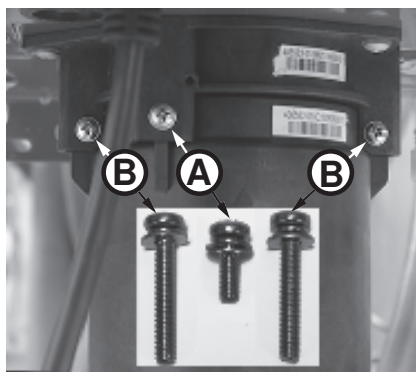

Figure 226 - Identify cartridge screws
- 6 Locate the three (3) screws securing the X3®/Bypass cartridge as shown in Figure 226. Remove the **(A)** M4-12mm screw and the two **(B)** M4-25mm screws from cartridge. Place screws aside in a safe place for reinstallation.